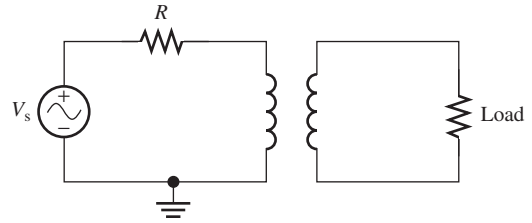

FIGURE P12.34 Circuit for Problems 12.34 and 12.35.
12.34 (B) In Figure P12.34, the voltage source is 10 V, 60 Hz, the resistor, R , is $10\ \Omega$, and the load has a resistance of $100\ \Omega$. Use PSpice to plot the voltage input to the transformer and across the load if N_1 is 100 and N_2 is 400. Assume an ideal-case transformer.
12.35 (B) In Figure P12.34, the voltage source is 10 V, 60 Hz, the resistor, R , is $500\ \Omega$, and the load has a resistance of $200\ \Omega$. Use PSpice to plot the voltage input to the transformer and across the load if N_1 is 600 and N_2 is 200. Assume an ideal-case transformer.